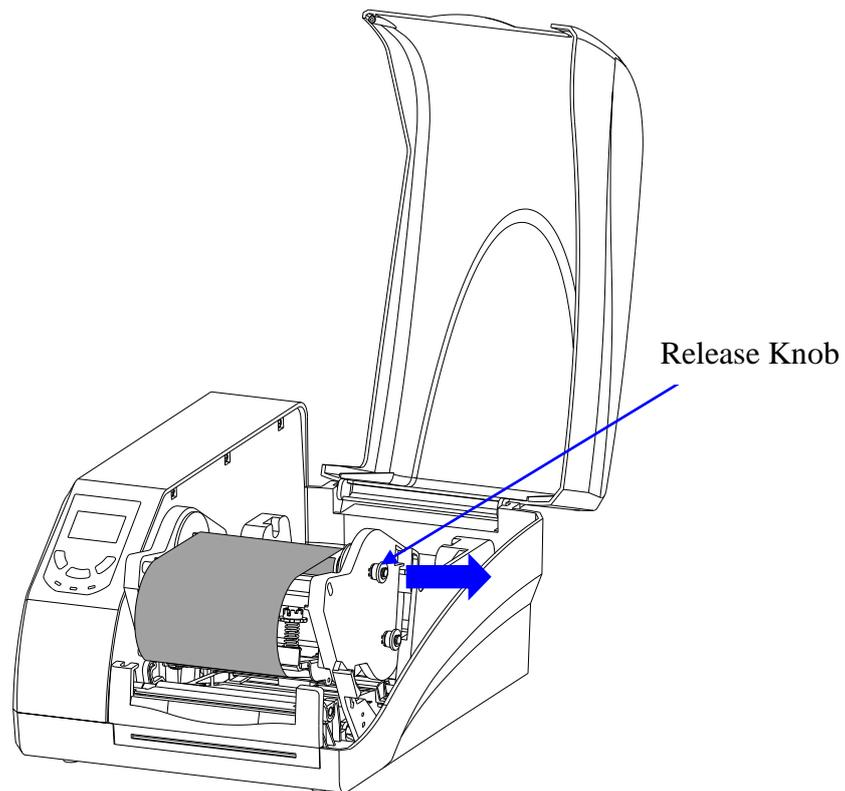

Figure 2-9 Place the Core on Ribbon Take-up
7. Pull the Release Knob of the Ribbon Take-up compartment outwards and load the core in the Ribbon Take-Up compartment, see Figure 2-9.